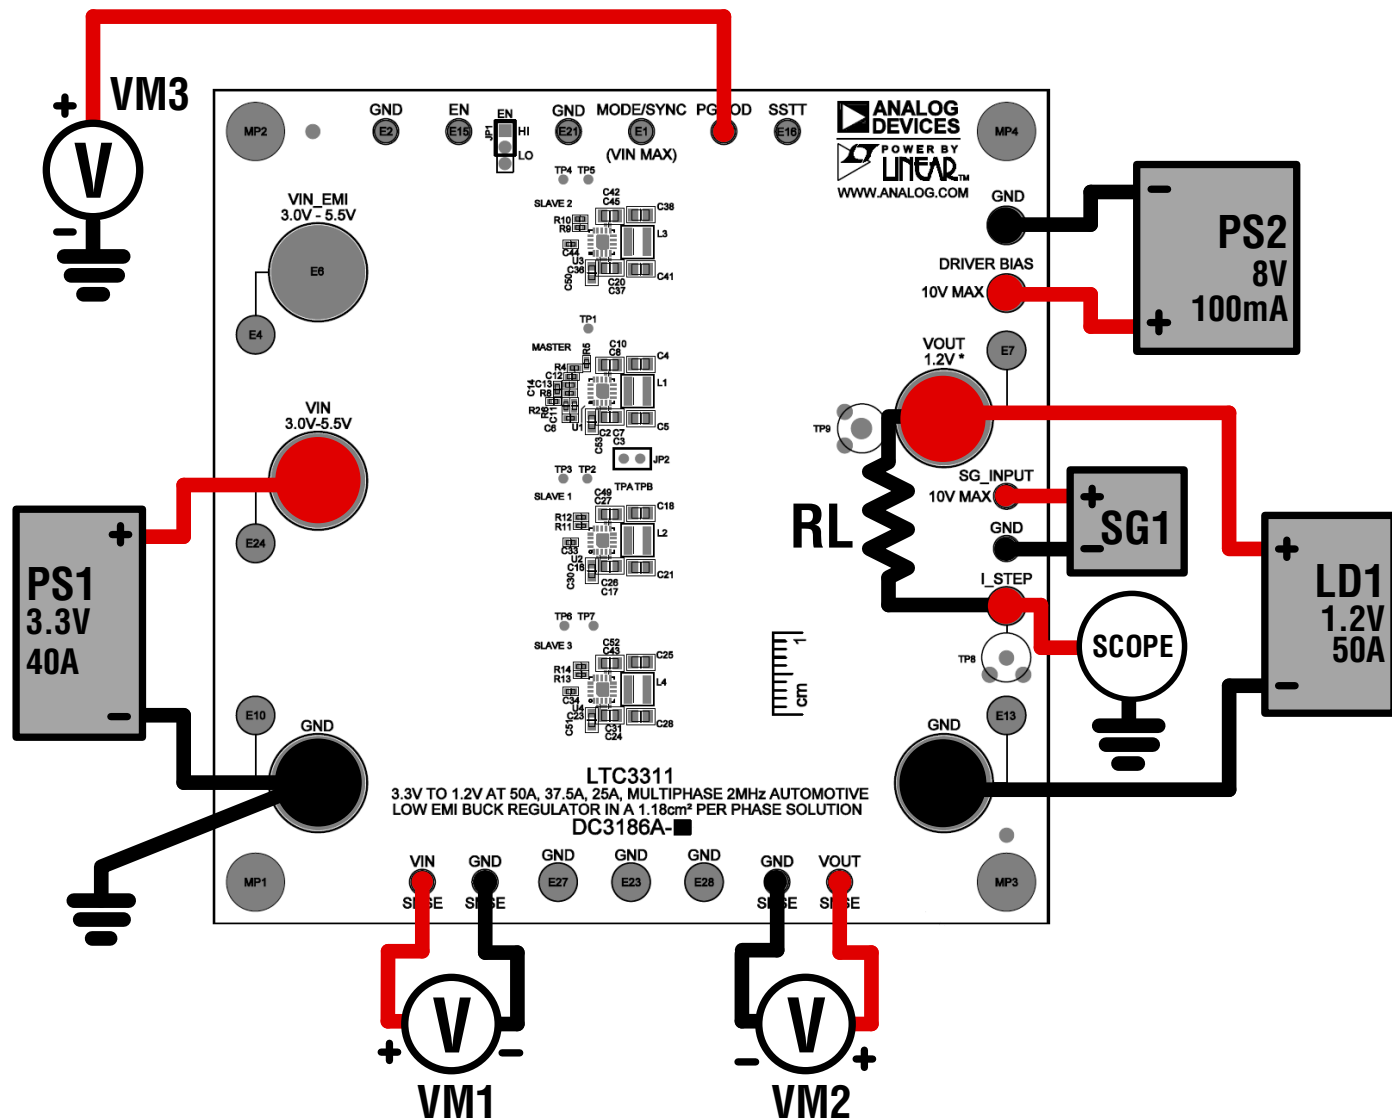
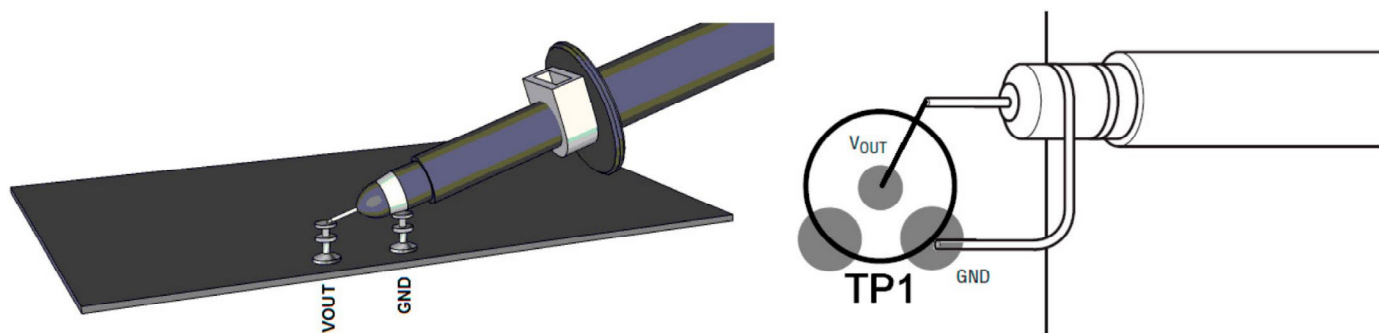

Figure 1. Test Setup for DC3186A Demo Board
Figure 2. Technique for Measuring Output Ripple and Step Response
Refer to Figure 1 for the proper measurement equipment setup and follow the procedure below:
NOTE: For accurate  $V_{IN}$ ,  $V_{OUT}$  and efficiency measurements, measure  $V_{IN}$  at the VIN SNSE and GND SNSN turrets, and measure  $V_{OUT}$  at the VOUT SNSE and GND SNSE turrets, as illustrated as VM1 and VM2 in Figure 1. When measuring the input or output ripple, care must be taken to avoid a long ground lead on the oscilloscope probe. Measure the output voltage ripple by touching the probe tip directly across the output turrets or to TP1 as shown in Figure 2.
3. Set power supply PS1 current limit to 40A. Set the electronic load LD1 to CC mode and 0A current. Slowly increase PS1 to 1V. If PS1 output current reads less than 20mA, increase PS1 to 3.3V. Verify that VM1 reads 3.3V and VM2 reads 1.2V. Check VM1, VM2, VM3, PS1 output current, and LD1 input current. Connect an oscilloscope voltage probe as shown in Figure 2. Set Channel to AC-coupled, voltage scale to 20mV and time base to 10 $\mu$ s. Check VOUT ripple voltage. Verify that PGOOD voltage is above 3V.
5. To test the transient response with a base load, add the desired resistor to produce a minimum load between VOUT and I\_STEP turrets (RL shown on Figure 1).